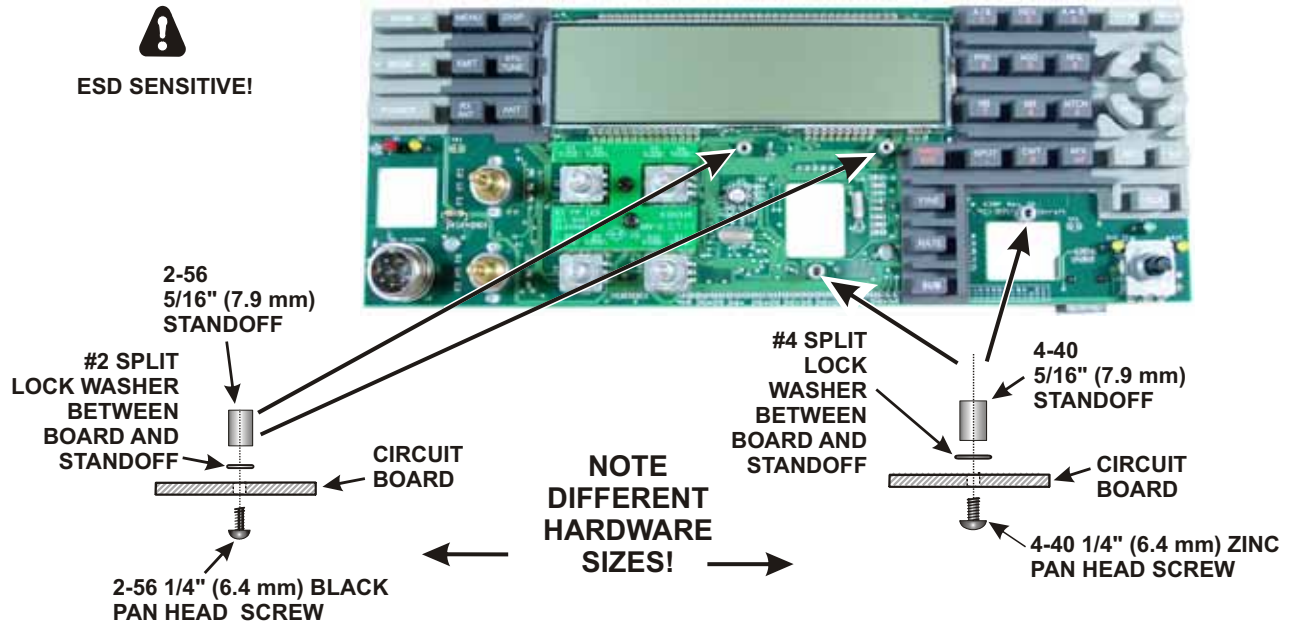

Figure 34. Preparing the Front Panel Board for Mounting, Part 2.
- On the front side of the board, mount four standoffs as shown in Figure 34.
- Two 4-40 5/16" (7.9 mm) standoffs are mounted on the front as shown in Figure 34.
- Two 2-56 5/16" (7.9 mm) standoffs are mounted on the front as shown in Figure 34.